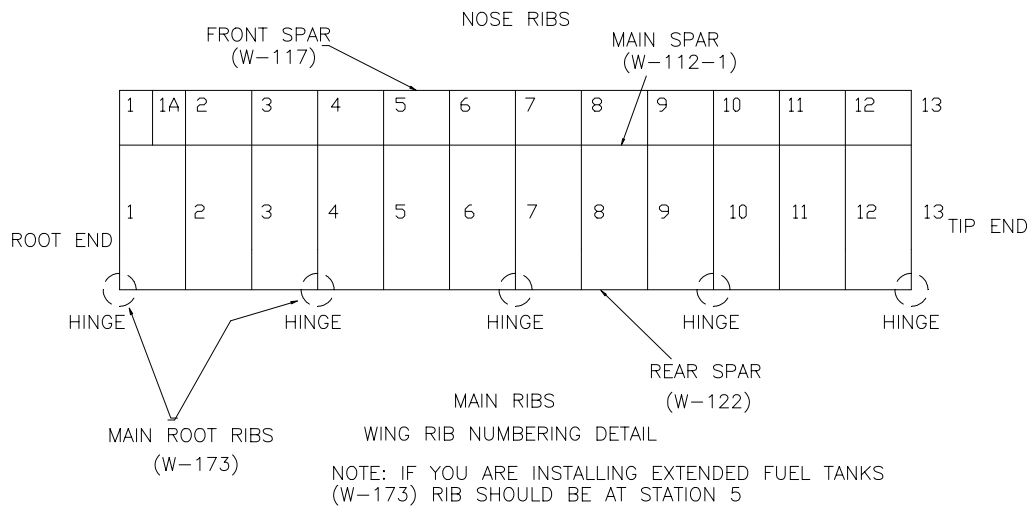

Figure 8.3.3
- 2) With a felt pen, label the ribs and their locations on the Spar from 1 to 13, (# 1 being the root rib). **NOTE:** There is a #1 and #1A Leading Edge Rib. For rib locations see Figure 8.3.3.
- 20) Label the rib locations on the Rear Spar (W-122) as in Figure 8.3.3.